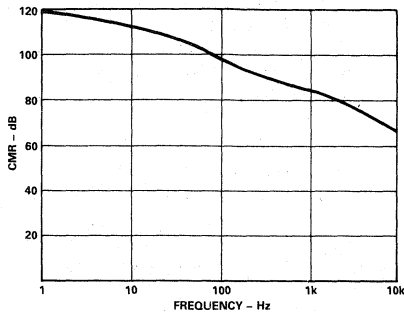

Figure 6. Typical AD295 - CMR vs. Frequency
**CMR vs. Frequency:** Input-to-output CMR is dependent on source impedance imbalance, input signal frequency and amplifier gain. CMR is rated at 60Hz and 1kΩ source impedance imbalance at a gain of 1V/V. Figure 6 illustrates the CMR vs. frequency for the AD295. CMR approaches 120dB at dc with a source impedance imbalance of 1kΩ.